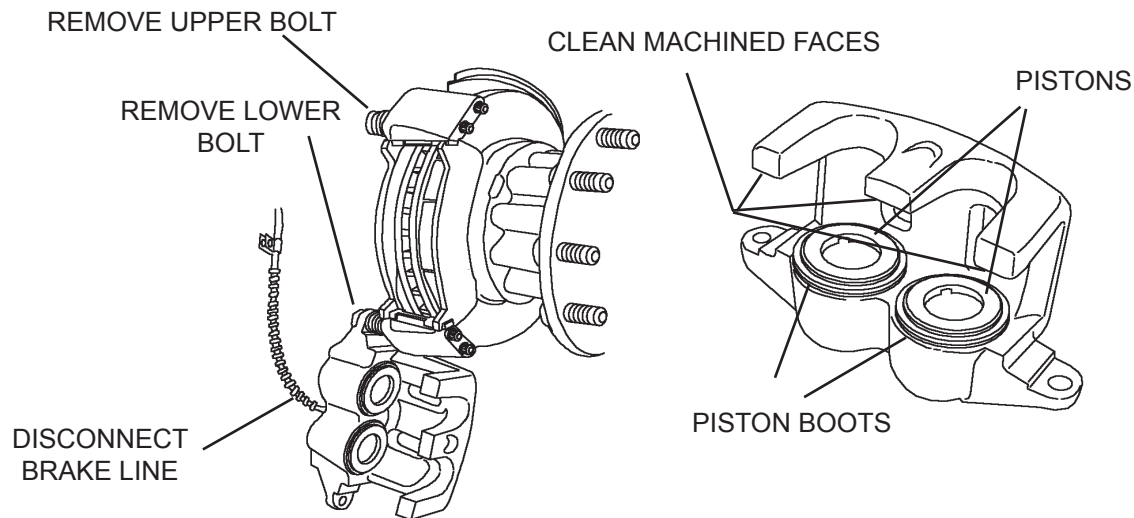

Figure 18. Remove Caliper From Anchor Plate
3. Disconnect brake fluid line from caliper and cap line to prevent brake fluid leakage or contamination in the brake line (refer to *Figure 18*).